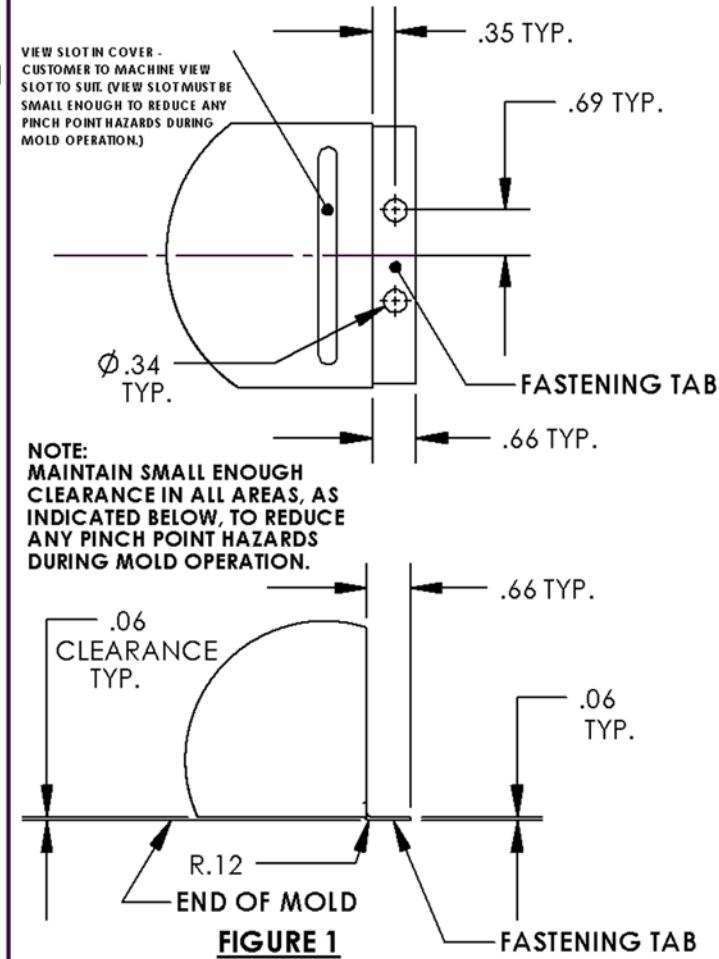

FIGURE 1
2. CUSTOMER TO FABRICATE COVERS TO FIT THE HOUSING WIDTH AND RISER HEIGHT DIMENSIONS, ALLOWING CLEARANCE FOR THE SIZE AND STROKE OF THE EJECTOR ASSEMBLY, AND MAINTAINING CLEARANCE FOR FREE MOVEMENT. "FIGURE 1" SHOWS THE RECOMMENDED SIZE FOR THE FASTENING TAB. COVERS TO BE MOUNTED ON BOTH ENDS OF MOLD TO OUTSIDE SURFACE OF MOLD ON RISERS.
3. CUSTOMER TO SUPPLY (8) 5/16-18 x 3/8 LONG UNC CLASS 3A BUTTON HEAD CAP SCREWS TO FASTEN EJECTOR HOUSING COVERS TO MOLD ON BOTH ENDS OF MOLD.